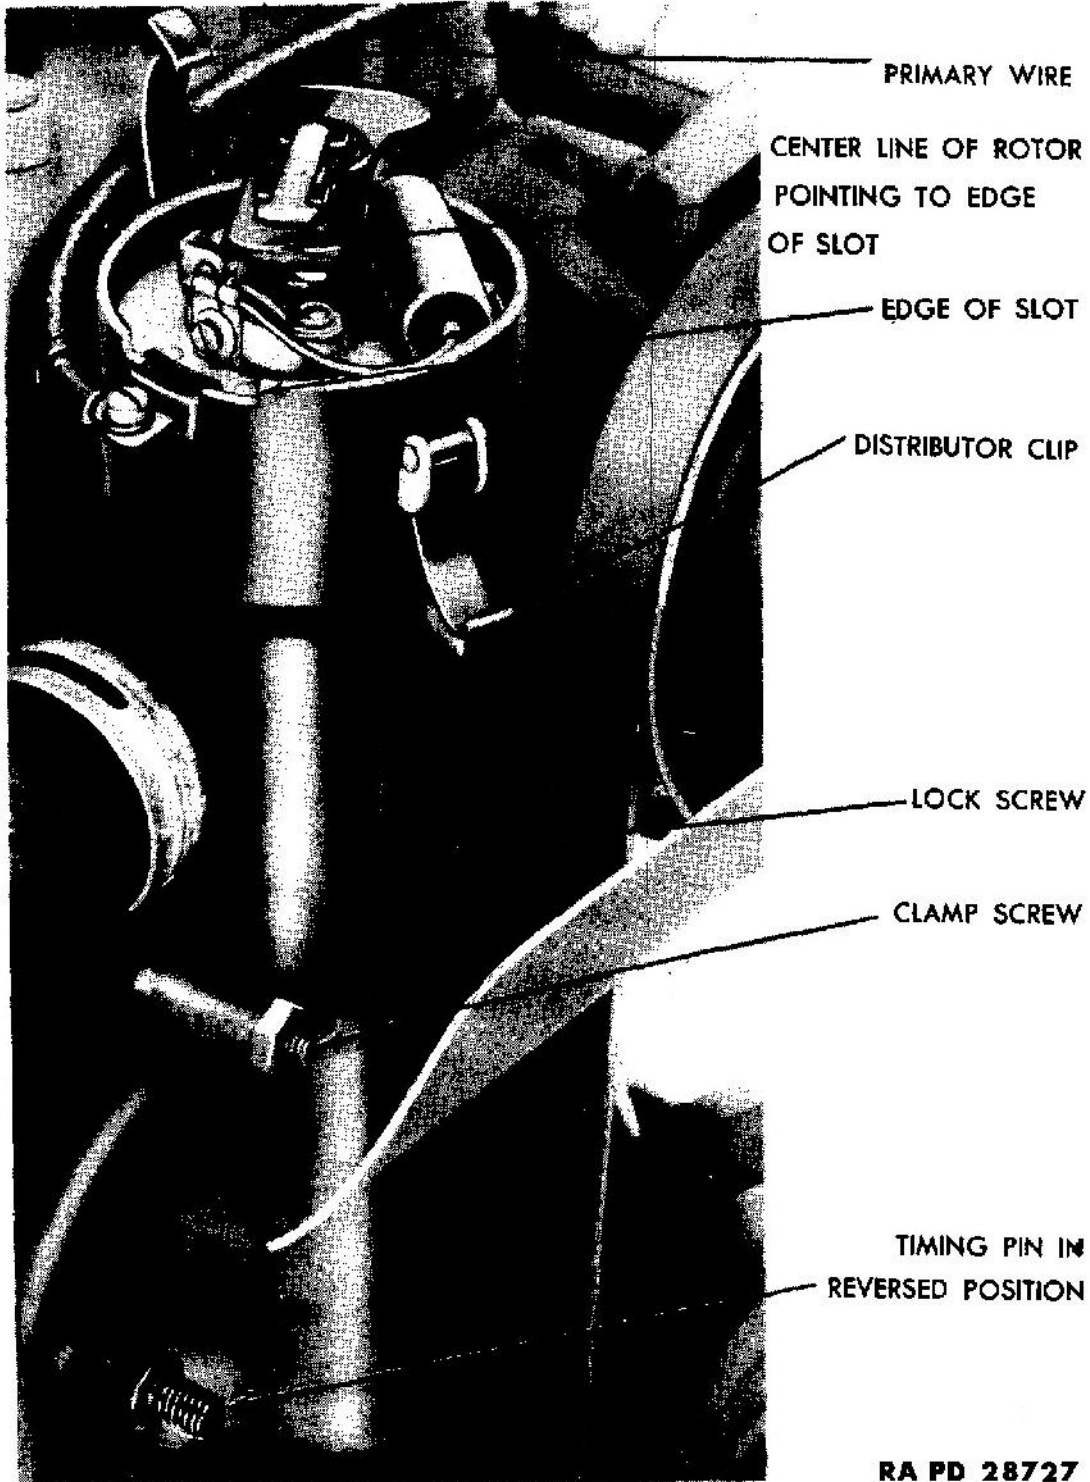

Figure 19 — Distributor With Cap Removed, and Timing Pin
a. Description (fig. 19). The distributor is mounted on the left front of the engine and is driven by gears on the ends of the camshaft and the distributor shaft. See paragraph 56 **b** for data.
c. Installation. Turn engine to timing position (par. 60). Install the distributor on the engine with the rotor pointing to the edge of the slot in the distributor body (fig. 19). This will place the rotor under No. 1 contact in the distributor cap. Time the ignition (par. 60). Tighten the clamp screw on the timing arm (fig. 19). Install the distributor cap. Connect the primary wire to the distributor (fig. 19).
60. IGNITION TIMING (fig. 19).
a. Remove the spark plugs. Remove the timing pin from the cylinder front cover, reverse the pin and put it back in the hole in the cover. While applying hand pressure on the pin, turn the engine until the pin enters the indentation provided in the camshaft gear. No. 1 piston will then be on top dead center on the compression stroke. Remove the distributor cap. See that the lock screw is fastened in the center of the slot in the timing arm. This slot provides a means of advancing or retarding the timing. Loosen the clamp screw on the timing arm. Turn the distributor body until the breaker arm is on the high point of the cam. Adjust the points (par. 59 d (1)). Turn the distributor body until the breaker points just start to open with the rotor pointing to the edge of the slot in the distributor body. Tighten the clamp screw on the timing arm. Install the timing pin and distributor cap. Install the spark plugs.